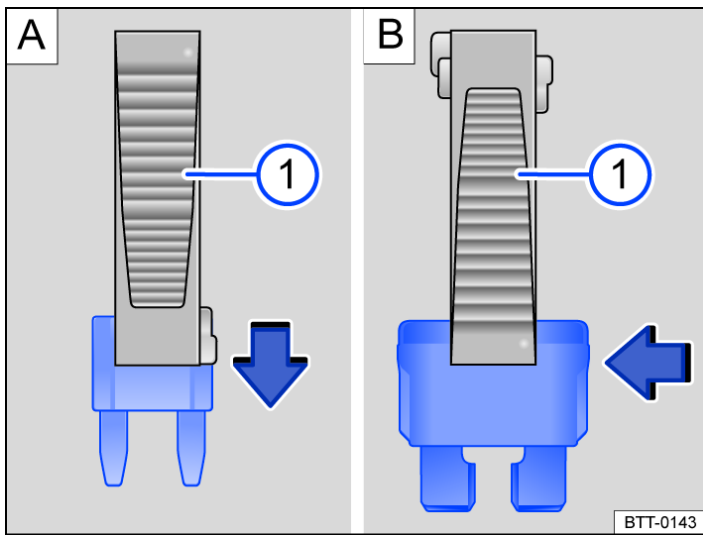

Fig. 2 Removing or inserting fuse with plastic grippers (illustration).
1. If applicable, take the plastic grippers out of the fuse box or the cover of the fuse box → Fig. 2 ①.
2. Push the plastic grippers clip suitable for the fuse design onto the fuse from the top or the side → Fig. 2.
4. If the fuse has blown, replace it with a new fuse with the same rating (same colour and same markings) and same size → ①.